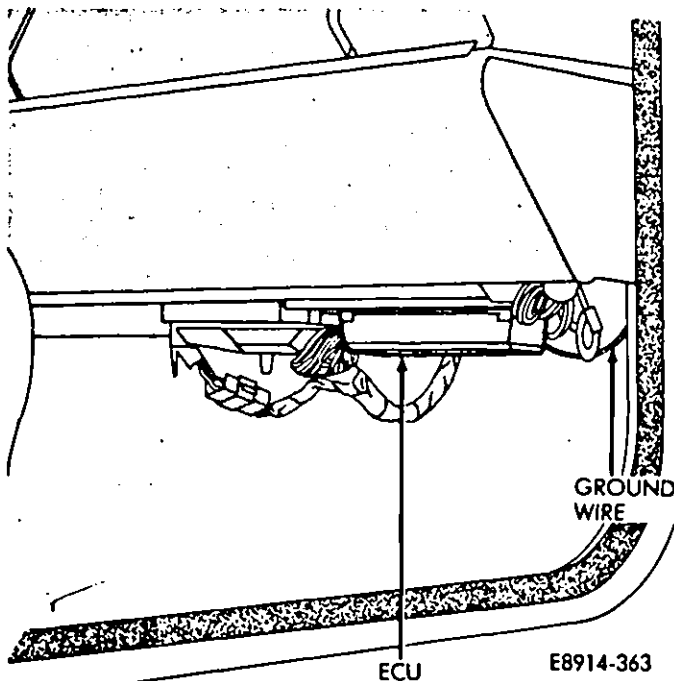

Fig. 11—ECU Removal/Installation
The ECU is located under the instrument panel on the passenger side of the vehicle (Fig. 11).
- (1) Raise the hood and disconnect the battery negative cable.
- (2) Remove the ECU mounting nuts and ground strap, remove the ECU from the vehicle (Fig. 11).